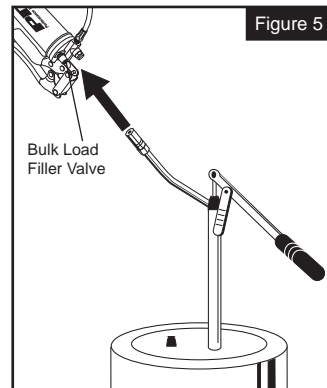

Figure 5
1. Make sure the valve is compatible with the adapter on the pump. (Figure 5)